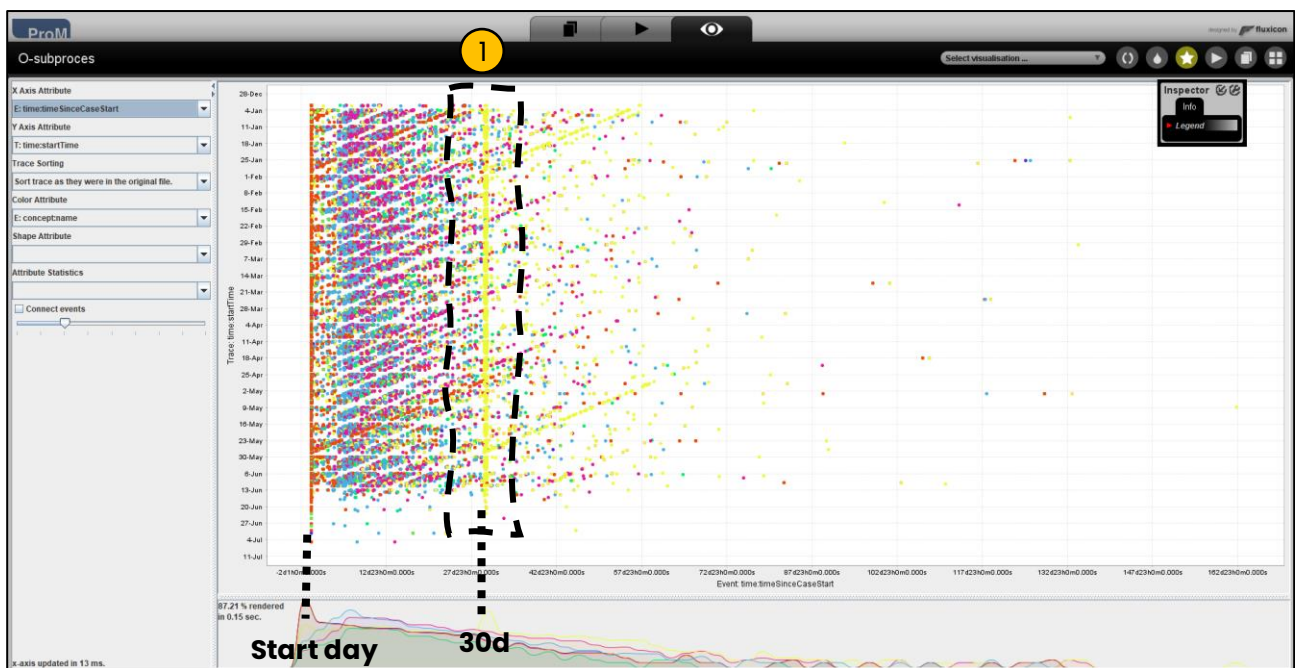
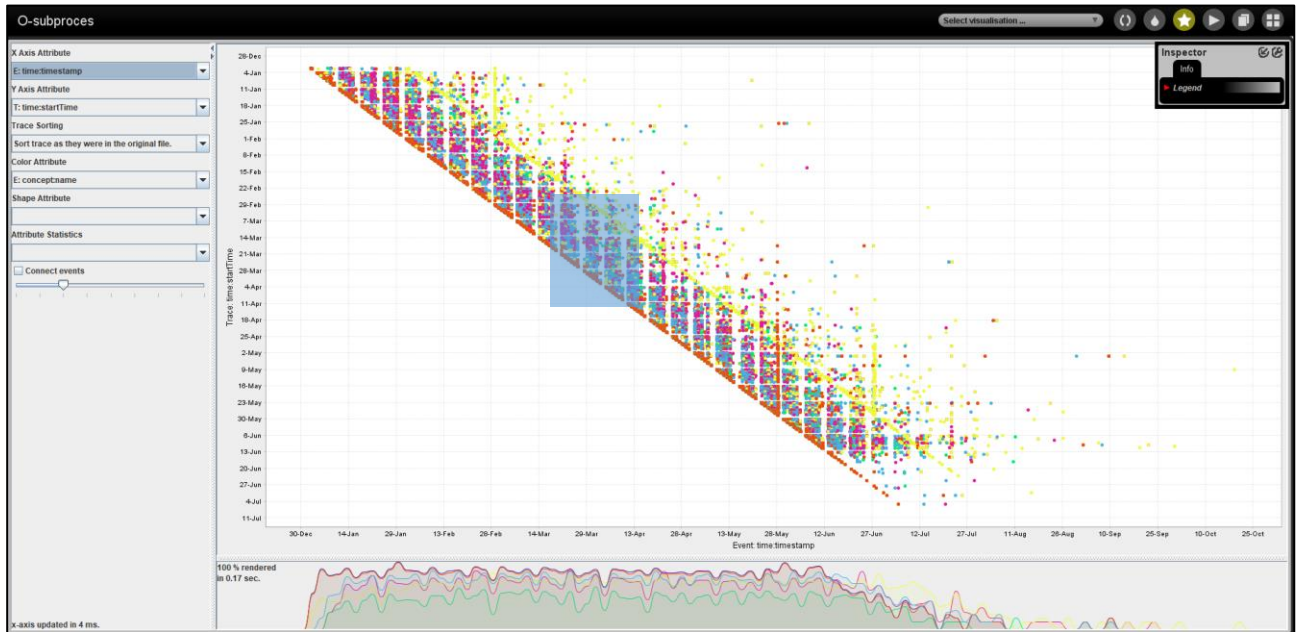

Figure 4. Dotted chart with case start time (x-axis) and trace start time (y-axis)
Figure 5. Dotted chart with event timestamp (x-axis) and trace start time (y-axis)
Cases are ordered by the timestamp of the first event in Figure 4. Because the first dots in each row correspond to the first event in the log, we can derive the arrival rate by looking at the timestamp of the first dot of each row. We see that Offer sub-processes are given out at constant rates. The above figure also shows a line of yellow dots parallel to the hypothetical line of case arrival (see the highlighted area). It refers to offers that are automatically cancelled after 30 days. This can be better seen this if the x-axis is changed to refer to the relative time with respect to the case start instead of the absolute time (see Figure 5).
Compare Area ① in Figure 4 (the line of yellow dots) and Figure 5.